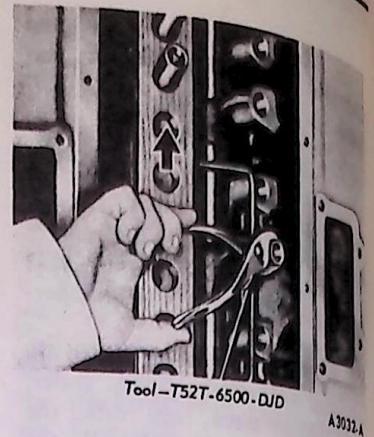

FIG. 20 Removing Tappet
4. Remove the valve tappets keeping them in order so that they can be replaced in their original position (Fig. 20).
5. Remove and replace one tappet at a time. If the tappets are difficult to remove, use the tool shown in Fig. 20. Apply Lubriplate to each tappet foot; then coat the remainder of each tappet and tappet bore with heavy engine oil before installation.